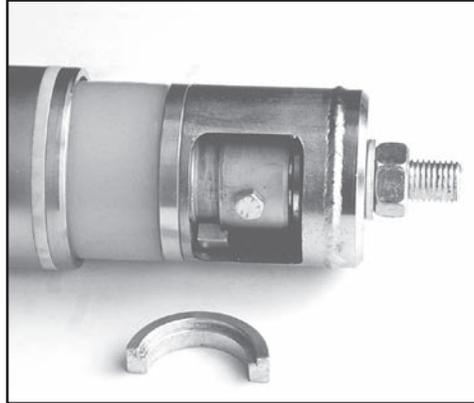

**FIG. 65: DISASSEMBLY TOOL**
15. Place the control tube end into the disassembly tool (see Fig. 65) until the bore of the tool overlaps the bores of the control tube.